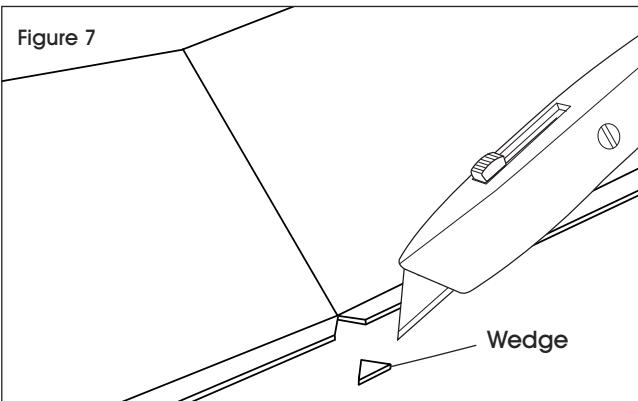

Figure 7
- Cut a small 90° triangular wedge from the toe at the corner point. (See Figure 7)